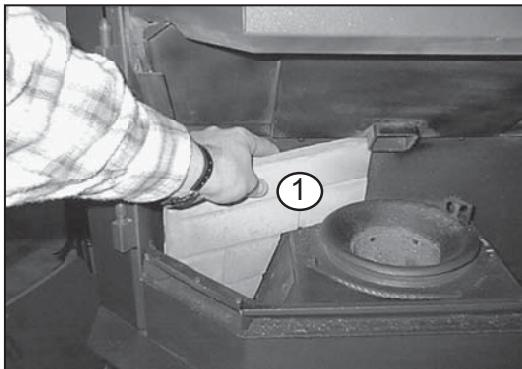

Figure 24.1
- Slide bottom of left rear brick in first; rotate top edge toward rear of appliance and then rotate outer edge toward rear of appliance, until brick slides into place. **Figure 24.1.** Repeat for right rear brick.